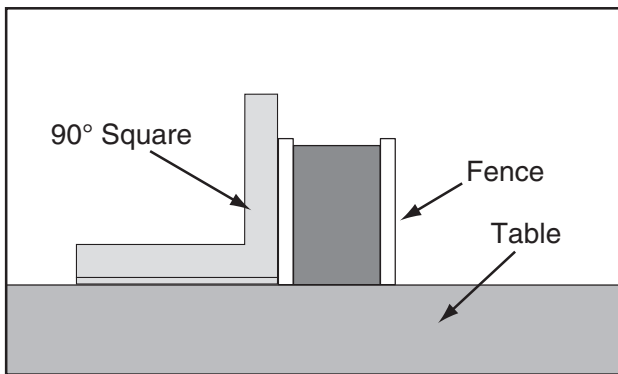

Figure 136. Checking if fence is square to table.
2. Place a square on the table against the face of the fence (**Figure 136**) to check if the fence is square to the table.